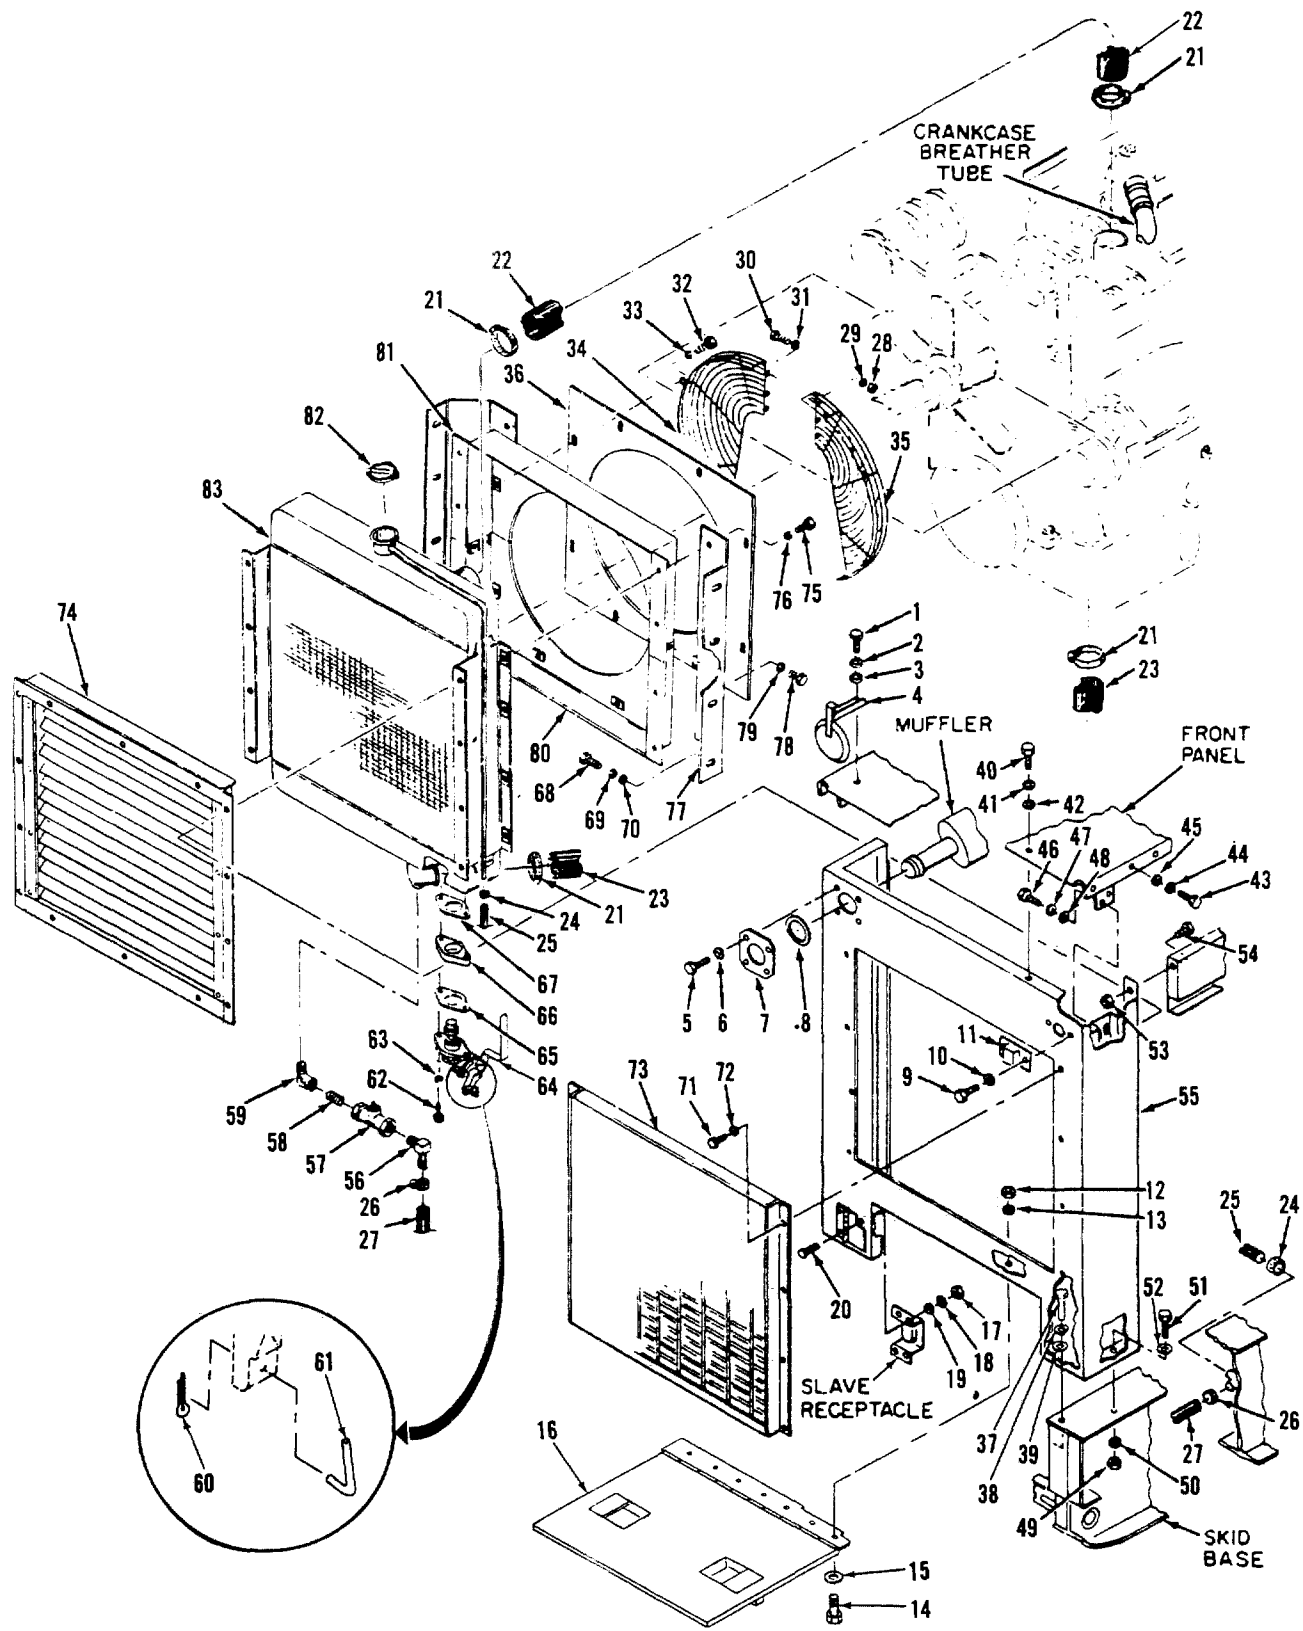

Figure 4-51. Radiator and Shutter Assembly
Legend for Figure 4-51
a. Inspect. Inspect radiator shutter assembly (see figure 4-51) for damaged or defective parts, cracking, peeling paint, rust, or scale. Inspect shutter vanes (see figure 4-51) for evidence of binding, loose mounting, and damaged or defective bearings.
(1) While engine is cold, test shutter vane position by trying to insert card stock or match book cover between the vanes. If shutter is properly adjusted, card stock or match book cover will not fit between vanes. If match book cover can be inserted between vanes, the shutter must be adjusted.
(2) Test manual operation of shutter by operating the hand lever.
(3) Test operation of shutter assembly under power as follows:
(1) Removal. Refer to figure 4-51 and proceed as follows: